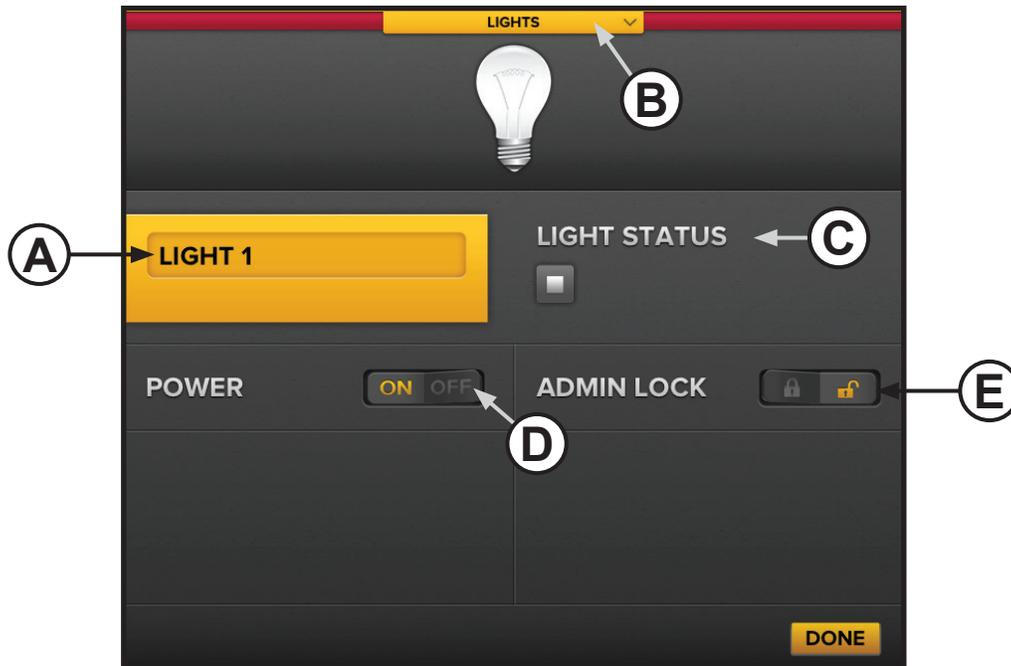

Figure 10–Light settings page
3. Select the light. The light settings page appears (Figure 10).
4. Adjust the settings as necessary, and then touch **Done**. See Figure 10 below for details.